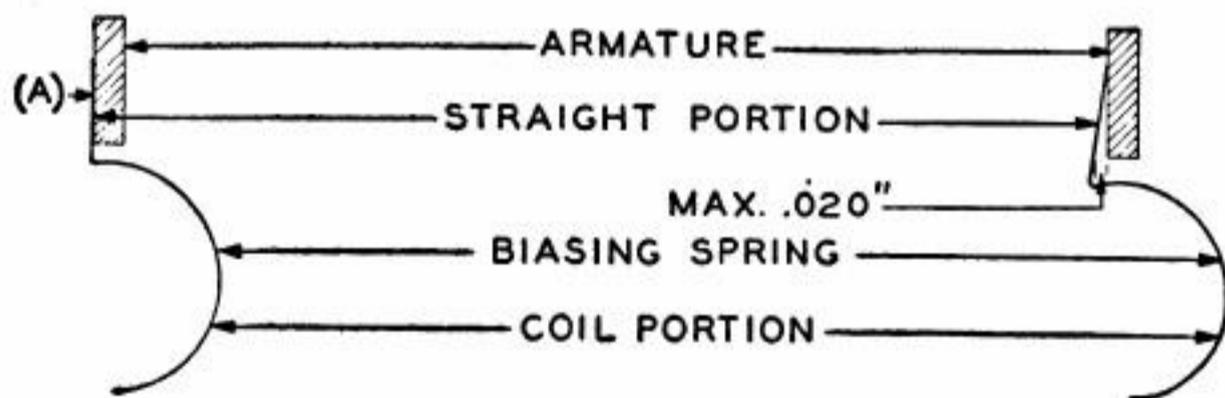

Fig. 103—Allowable Variation in Biassing Spring Position
1.04 **Biassing Spring Position**—Fig. 103 (A): Straight portion of biasing spring shall rest approximately flat against armature. Satisfactory if top end rests on armature and clearance, if any, at bottom edge of armature is max. .020". Coil portion of spring shall clear armature and soldering lug.